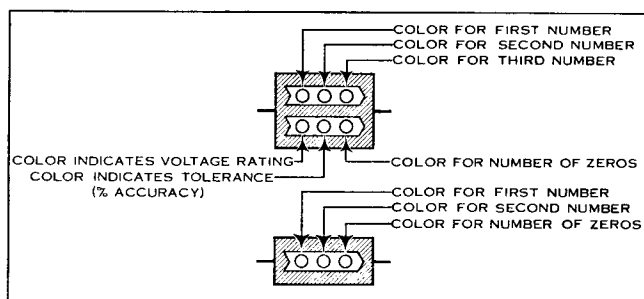

Figure 13 RMA Mica Capacitor Color Code Chart
EXAMPLE: A 56,300 MMF (0.0563 MF.) capacitor of 10% tolerance and a 500 volt rating is indicated by a green dot (5), a blue dot (6), and an orange dot (3), on the top row; a red dot (2 zeros) (00), a silver dot (10% tolerance) and a green dot (or no color) (500 volts) arranged in the order shown in Figure 13. All capacitance values are given in micromicrofarads (MMF). To convert to microfarads (MF.) move the decimal point 6 places to the left. Small capacitors are often marked with 3 dots as shown in Figure 13. For example, a 250 MMF. unit (.000250 MF.) would be marked Red (2), green (5), and brown (1 zero) (0).